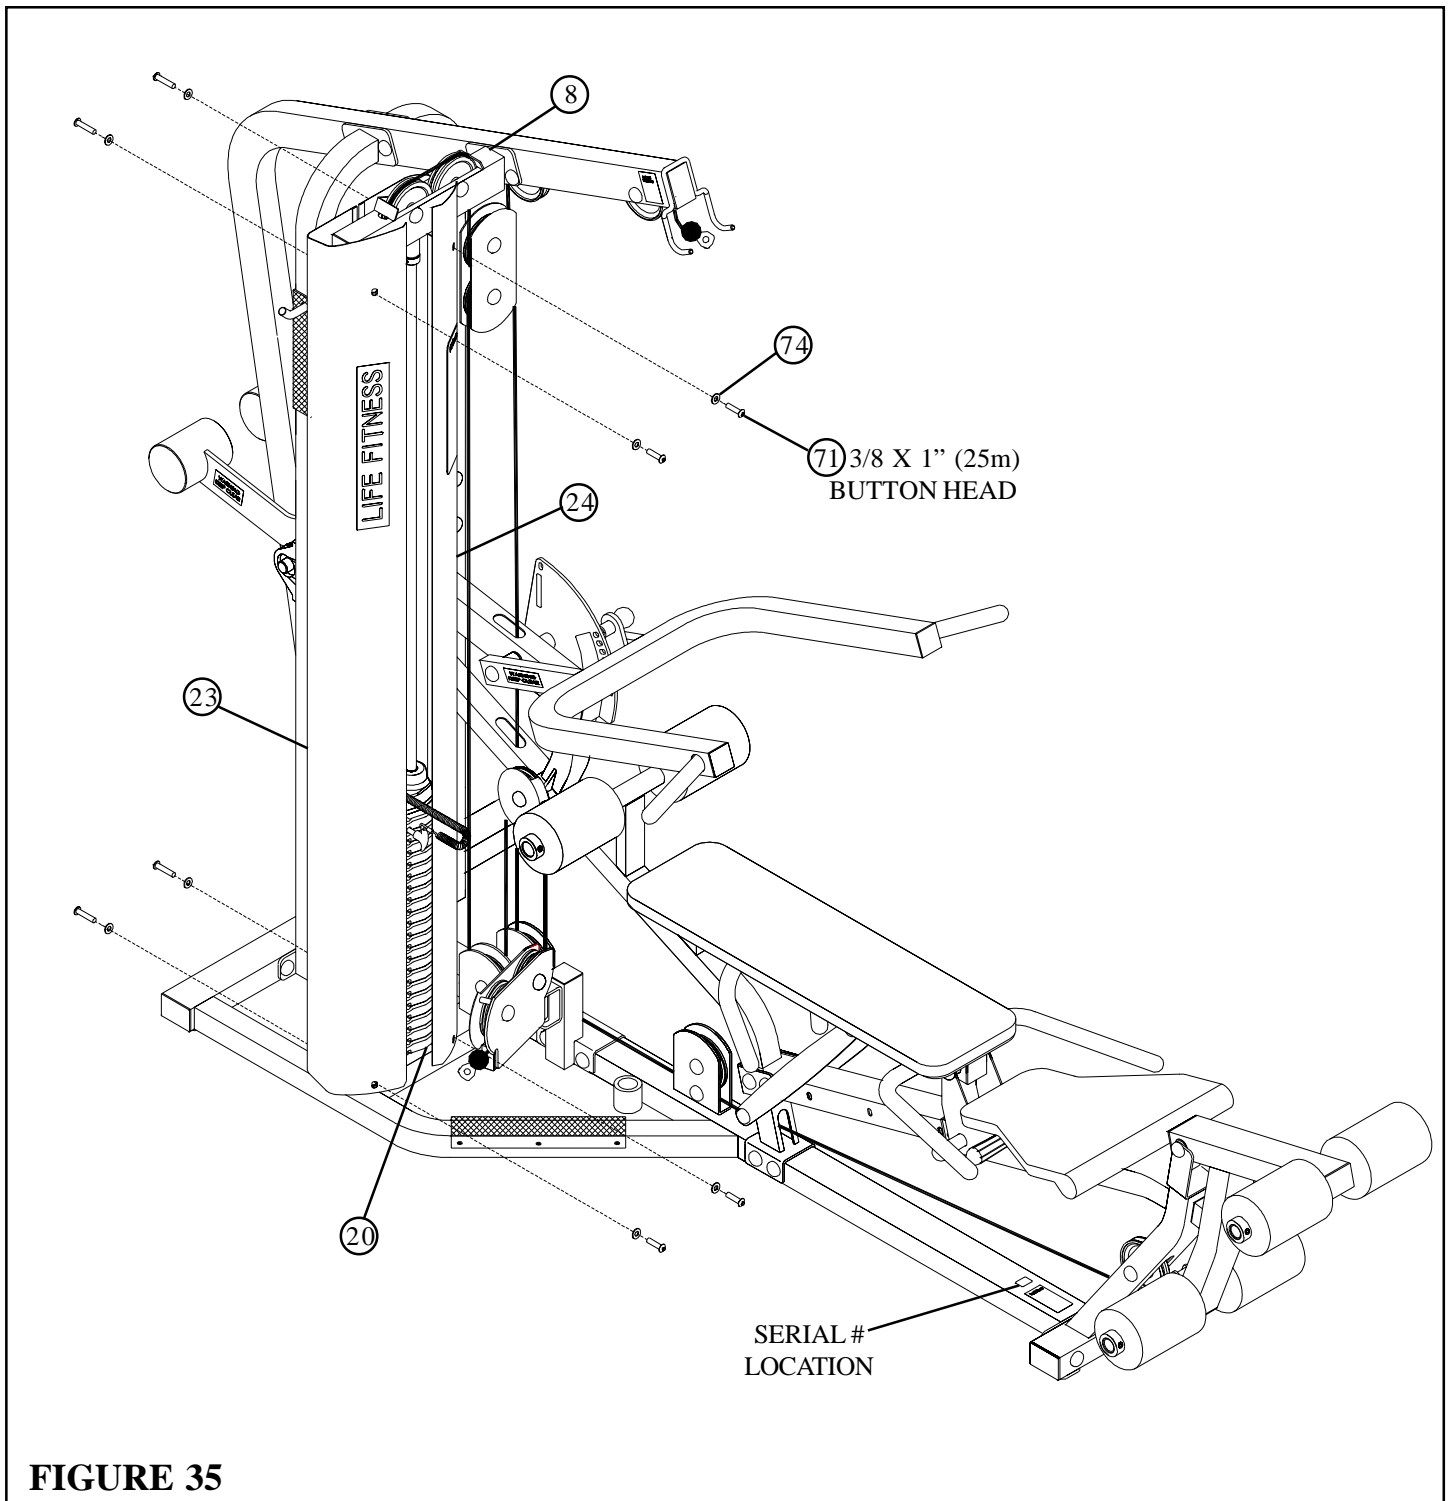

FIGURE 35
- **SECURELY** assemble the LEFT and RIGHT SHROUDS (23 & 24) to the STACK BOOM (8) and BOTTOM SHROUD BRACKET (20) using eight 3/8 X 1" BUTTON HEAD BOLTS (71) and eight 3/8" BLACK SAE WASHERS (74) as shown in FIGURE 35.
- If upon completion of assembly, the HEAD PLATE (29) does not sit on top of the first WEIGHT PLATE (31), push the HEAD PLATE (29) down, insert the WEIGHT STACK PIN (33) and perform several repetitions. This will relax the cable system and prevent the HEAD PLATE (29) from lifting up. See FIGURE 35.
- For maximum performance, the HEAD PLATE (29) should just barely sit on the top WEIGHT PLATE (31).